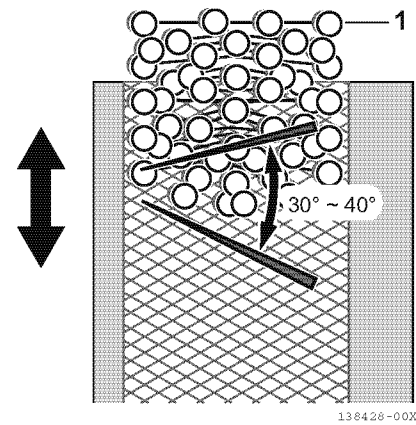

Figure 6-91
2. **Honing** - Minor cylinder imperfections may be corrected by using a rigid cylinder hone (1, **Figure 6-91**). Be sure not to exceed the maximum cylinder bore specification.
*Note: When honing a cylinder, with either a ridged hone or a ball hone (1, **Figure 6-91**), move the rotating hone up and down in the cylinder bore to accomplish a 30° to 40° crosshatch pattern (**Figure 6-91**). This will provide the ideal surface for the proper seating of new piston rings.*